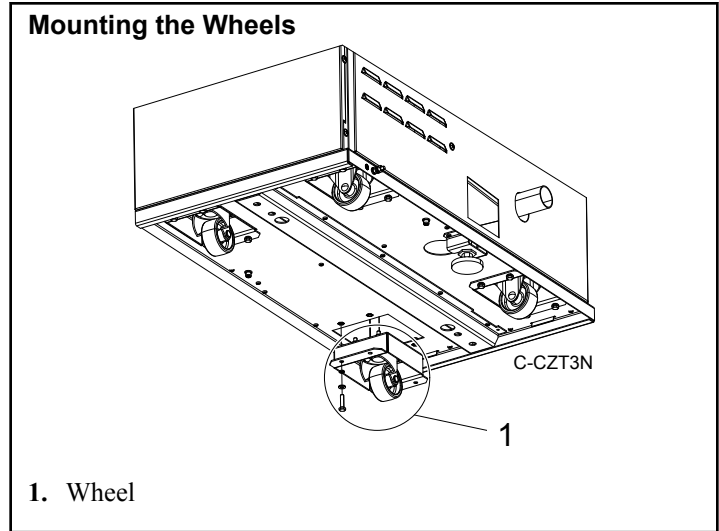

Figure 19
2. Mount the wheels to the heat pump base. Refer to *Figure 19* (1).